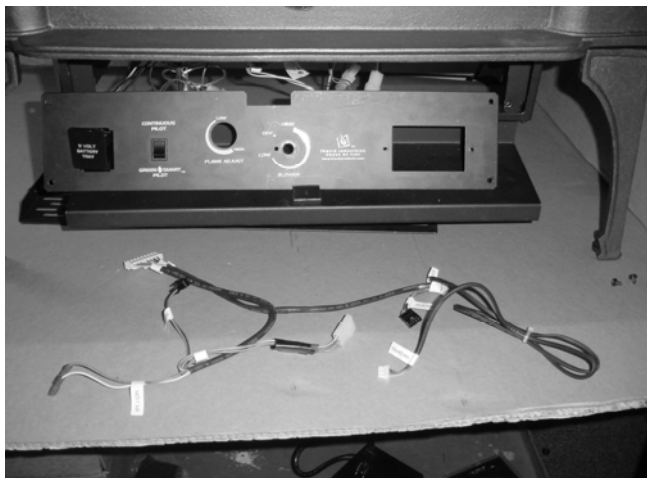

Figure 17
- 11 Place the GreenSmart wiring harness in front of the stove, noting the position of each connector (see Figure 17).